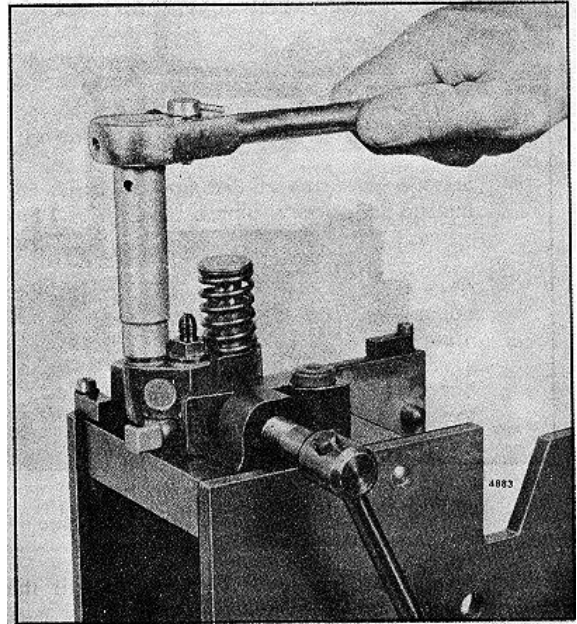

FIG. 23 Removing or Installing Filter tap
1. Support the injector upright in injector holding fixture J 22396 (Fig. 23) and remove the filter caps, gaskets and filters.